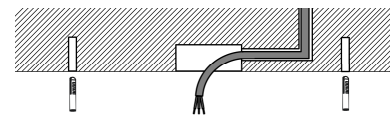

Fig.3 (SECTION)
- Fix the mounting Bracket by four M4x50mm screws. (Fig.3)